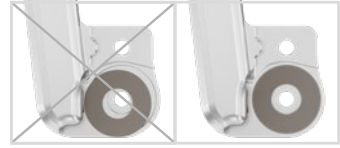

fig. 8
- 2 Apply spray adhesive on one side of the first sliding washer and adhere it to the cover plate (fig. 8).